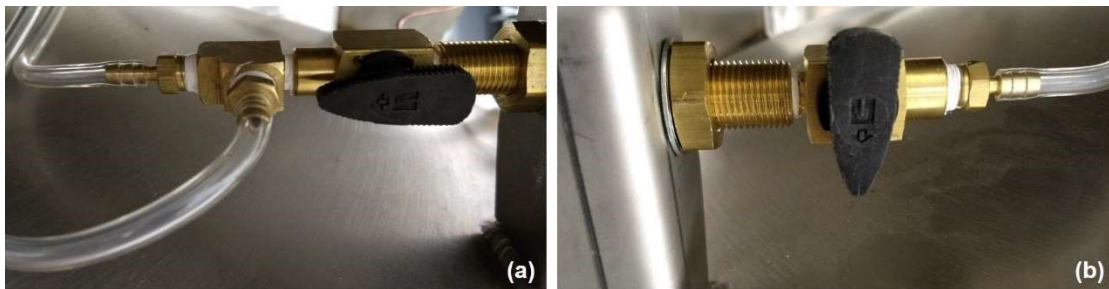

Figure 16: Isolation valve; (a) Open state, (b) Close state
9. Confirm that both isolation valves located underneath the shroud, one on each side of the liquefier, are closed (see Figure 16). If they are not, close both valves.
14. Open both isolation valves located underneath the shroud (refer to Figure 16).